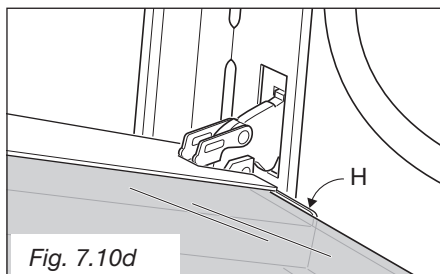

Fig. 7.10d
- Insert the inner pane in the left **E** and right **F** side guides (fig. 7.10c) and gently let it slide up to the retainers **H** (fig. 7.10d).